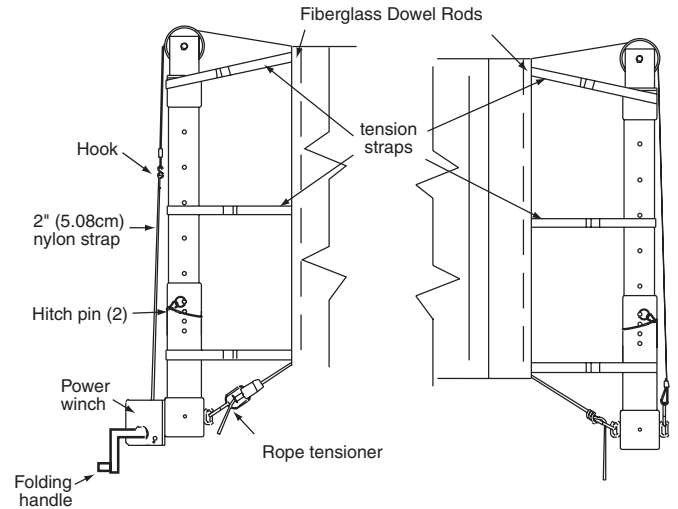

Figure 3
- ④ Install standards in floor sleeves.
- ⑤ Set top post at net height by removing hitch pin and resetting hitch pin at required height. NOTE: Proper height is stamped on side of post.
- ⑥ Measure distance from finished floor to top of sheave. This dimension should be 3/4" (2 cm) higher than required net height. If necessary, remove standard from sleeve and adjust rubber bumper until desired height is reached.
- ⑦ Unroll net on floor between standards.
- ⑧ Install 1/2" fiberglass rods in ends of net (see Fig. 3).
- ⑨ Unspool the 2" nylon strap from winch. Hook one end of the top net cable in hook on belt. Hook opposite end of top net cable to cable anchor collar on the other standard (see Fig. 3).
- ⑩ Tighten net by turning winch handle clockwise. Measure distance from top of net to finished floor at the center of the net.
- ⑪ Wrap net straps once around standards and tighten using buckles (see Fig. 3).
- ⑫ Install tensioner to winch end of net rope by inserting rope through beveled end of tensioner. Tie a loop in other end of rope. Attach rope tensioner to winch and rope loop to cable anchor collar (see Fig. 3). Tighten by pulling on rope while holding tensioner.